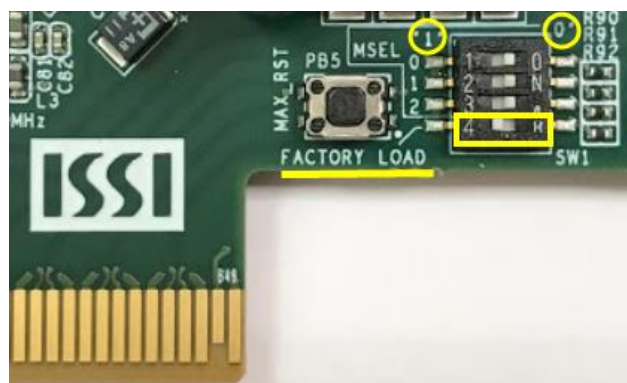

Figure 4-2 Configuration Image Selection
3. Specify the configuration of the FPGA using the default Factory Configuration or User Configuration by setting SW1.4 according to **Figure 4-2**.